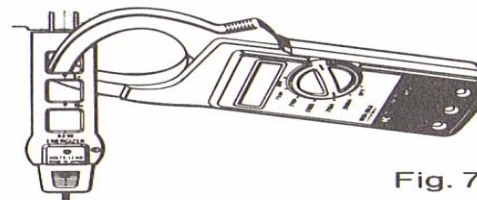
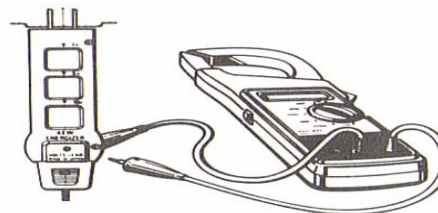

Fig. 7
Fig. 8
- (1) As shown below, Model 2002 or Model 2002P clamped onto "1X" position of ENERGIZER is to measure current flowing through a twin conductor line cord (up to 10A AC). (Fig. 7)
- (2) To measure a low current more accurately clamp onto "5X or 10X" position. Divide the reading by 5 or 10 to obtain a true current value.
- (3) When measuring AC voltage, connect ENERGIZER to AC power outlet or appliance under test the same way as outlined for AC current measurement. With the test leads plugged into VOLT and OHM terminals of the instrument connect one test lead prod to "VOLTLEAD" terminal on one side of ENERGIZER and the other prod to "VOLTLEAD" terminal on the other side. (Fig. 8) This will permit easy voltage measurement (up to 300V AC) without cutting off the cord.